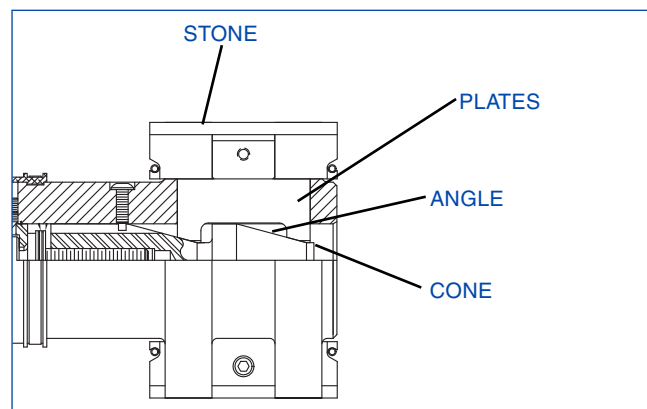

FIGURE 2-10, Install Expander Plates
2. It is easiest to put two holders and plates into the head at a time, working in a counterclockwise direction, looking down from the universal joint (*see Figures 2-10 & 2-11*).